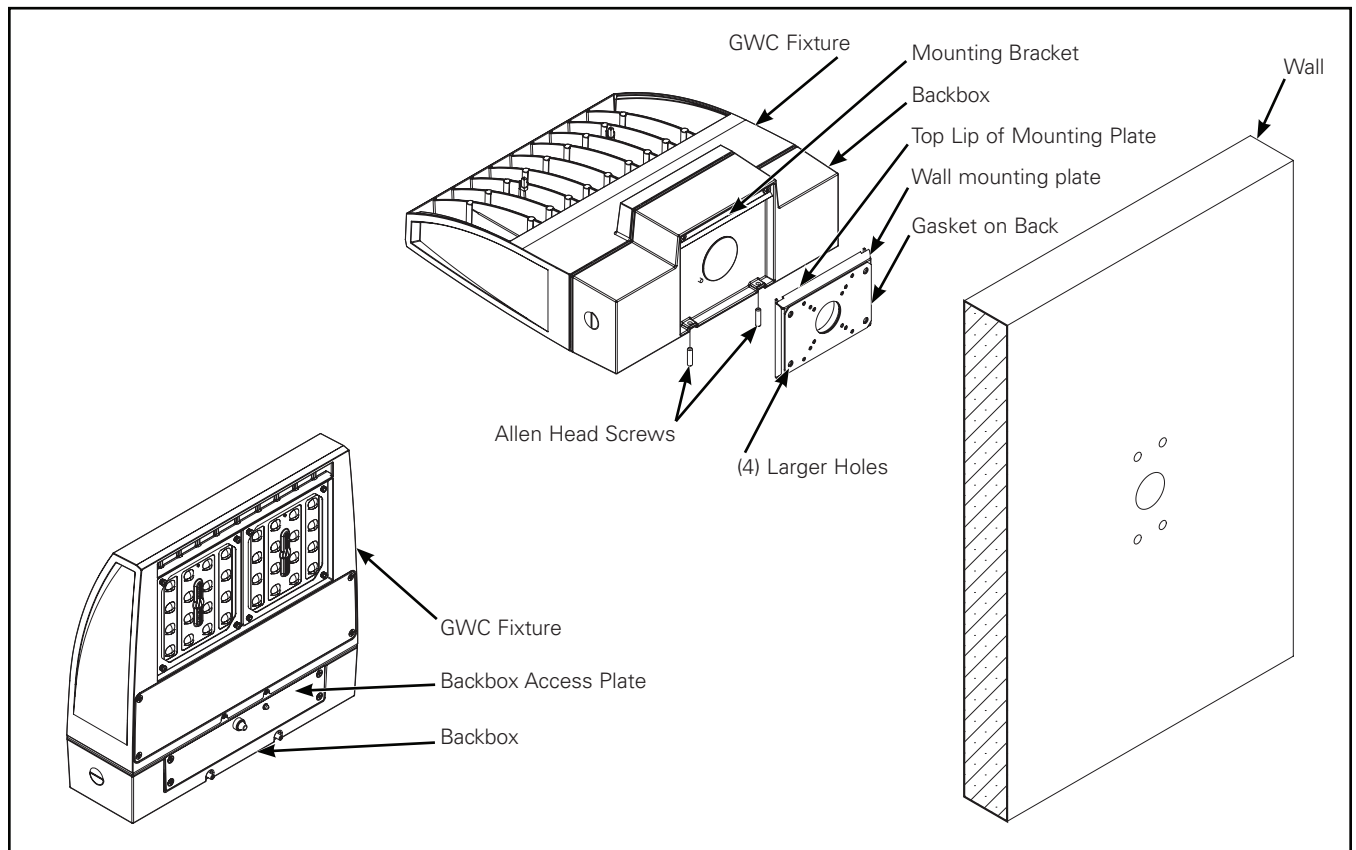

Figure 8.
**Wall Mount – Battery back box emergency option (Figure 8.) For use in down light application only**